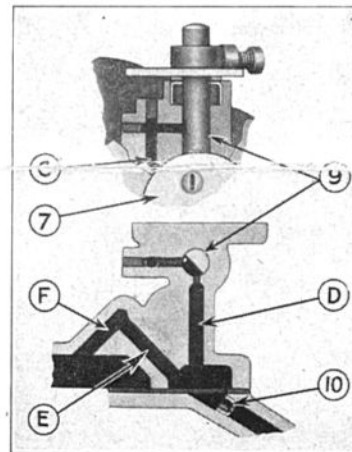

Figure 2
When the throttle is opened sufficiently to bring the throttle plate (7) just below the channel (C), approximately $\frac{1}{4}$ open, a strong suction acts through channels (D), (E) and (F) thus holding back the fuel in the bowl and causing a lean mixture through the part throttle operation. The bowl ventilation from the intake of the carburetor is restricted by a bushing (10) (see Figure 2) thus preventing bowl ventilation from overcoming the suction from channels (C and D).